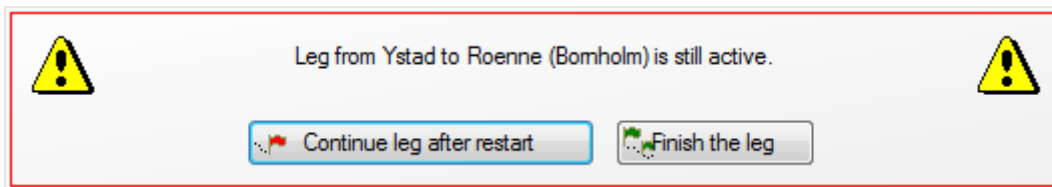

Figure 48: Dialogue for interruption or closing of a stage at the end of the program
- Shutting down TripCon while stage is running and confirming „close stage“ (see Figure 48).